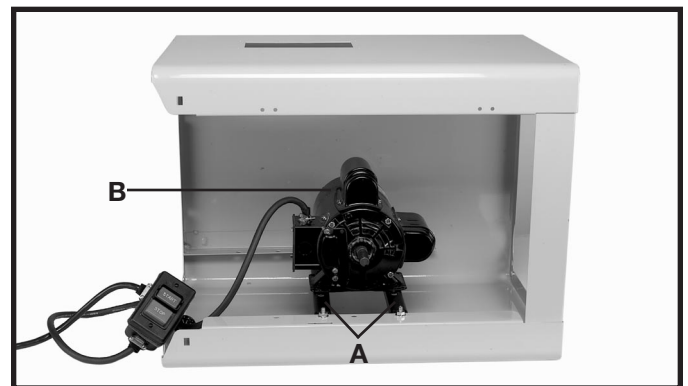

Fig. 8
1. Place the motor (B) Fig. 8, on the motor brackets (A). Align the holes in the motor mounting plate with the holes on the motor brackets.